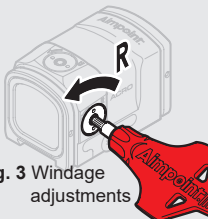
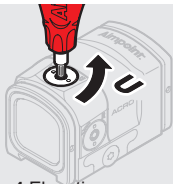

Fig. 3 Windage adjustments
Fig. 4 Elevation adjustments
**CAUTION:** Do not continue to adjust windage and elevation screws (6) (7) if you encounter resistance.
- b Use the Torx T10 of the Aimpoint tool (8D) to turn the adjustment screws (6) (7).
- c Windage adjustments (see Fig. 3):
- Turn windage adjustment screw (6) counterclockwise to move point of impact to the right (R).
- Turn windage screw (6) clockwise to move point of impact to the left.
- d Elevation adjustments (see Fig. 4):
- Turn elevation adjustment screw (7) counterclockwise to move point of impact up (U).
- Turn elevation adjustment screw (7) clockwise to move point of impact down.
- f Ensure the sight is securely installed on the weapon and retighten the screw for the locking bar (5) if necessary.
**NOTE:** Each click of the adjustment screws (6) (7) corresponds to approximately 2 cm movement of point of impact at 100 m or 0.7 in at 100 yds.